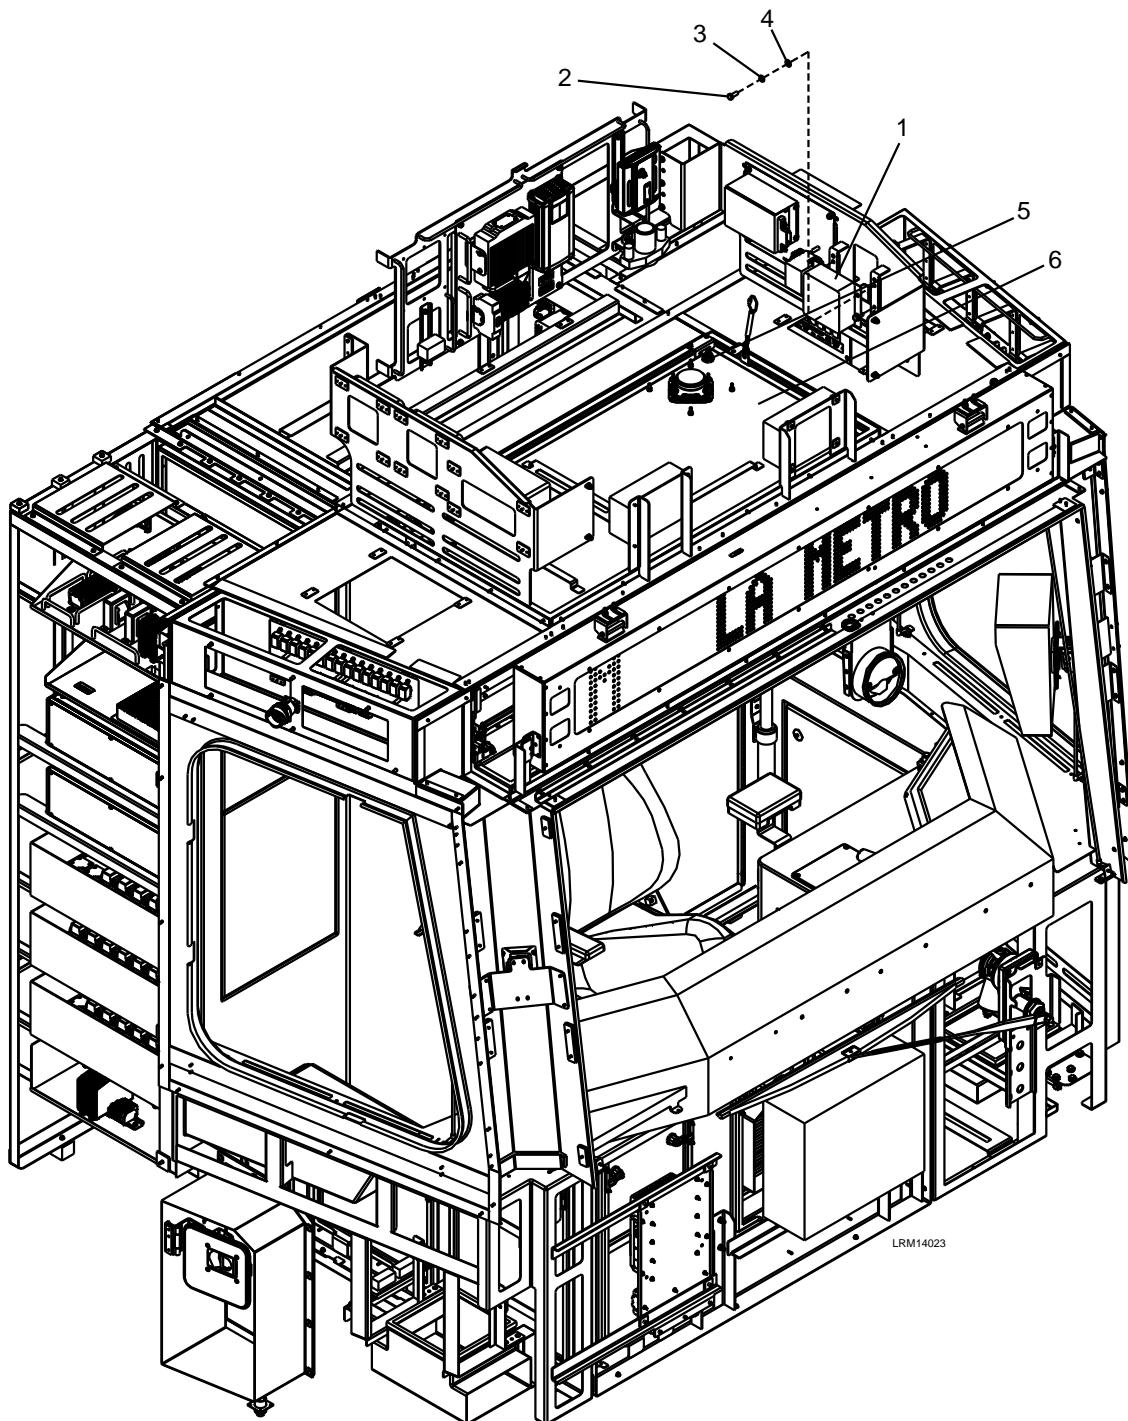

Figure 8-29 Wayside Worker Alert System (WWAS)
1. Unlock the two locks (5) and lower the cab ceiling panel (6) to access the WWAS (1) and disconnect the electrical connectors. See Figure 8-29.
2. Remove the four M8 x 20 bolts (2), M8 lock washers (3), and M8 plain washers (4).
3. Carefully remove the WWAS (1).